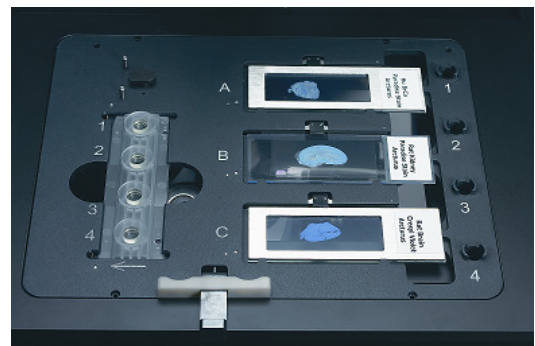

Figure 16 Modular stage insert
3. Load your slides and caps onto the work surface (see Figure 16).